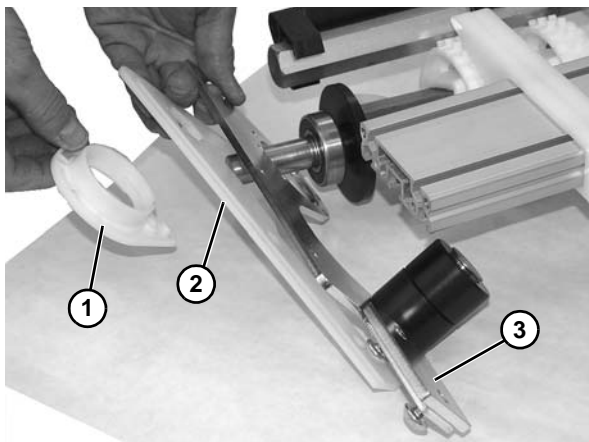

Figure 67
8. Remove bearing housing (**Figure 67, item 1**), nose bar spacer (**Figure 67, item 2**), and nose bar backing plate assembly (**Figure 67, item 3**) from crossmember.